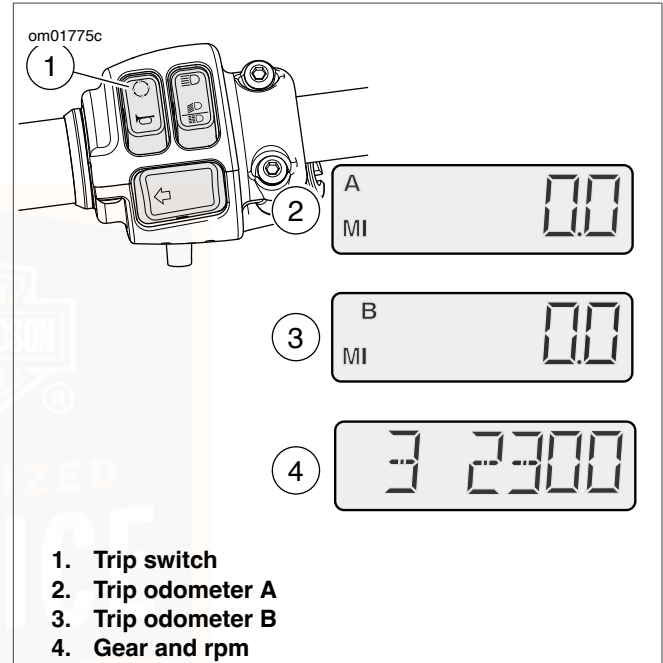

Figure 8. Trip Odometers, Gear Indicator and RPM: All except XL1200CX
See Figure 8. To check or to reset the trip odometers, press and release the TRIP switch (1) to display either the A (2) or B (3) trip odometer. An A or B in the upper left of the display window identifies the trip odometer.
See Figure 8. Press and release the TRIP switch (1) to cycle through the odometer displays to select the gear number and the tachometer display (4). The odometer shows the current gear (1-5) and the engine speed in revolutions per minute (rpm).